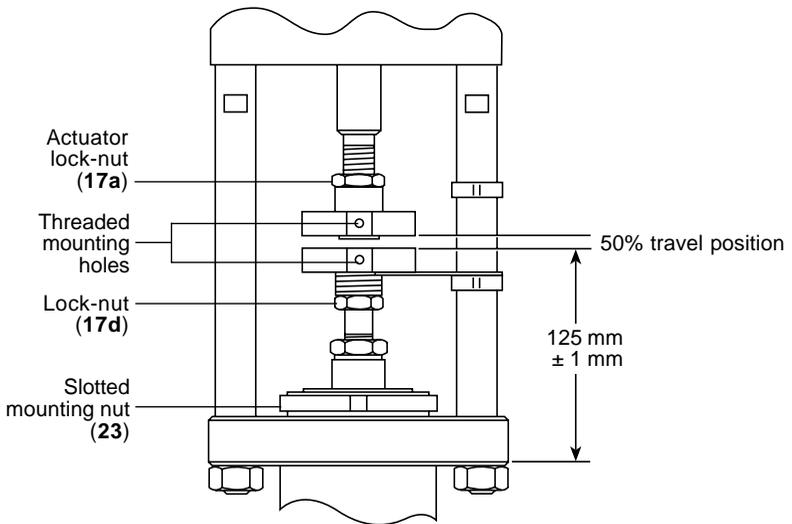

Fig. 6
- Apply air pressure to the actuator to position the spindle at the required travel position (see Fig. 6).
- Gently lower the actuator onto the valve, locating the pillars (15) into the mounting plate holes (18). Fit the pillar nuts (21) and tighten to the recommended tightening torque (see Table 1).